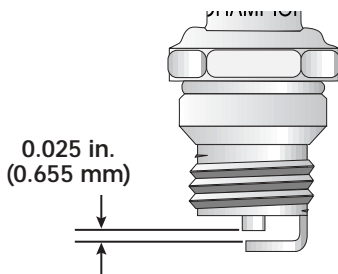

Fig. 28
3. Replace a cracked, fouled or dirty spark plug. Set the air gap at **0.025 in. (0.655 mm)** using a feeler gauge (Fig. 28).